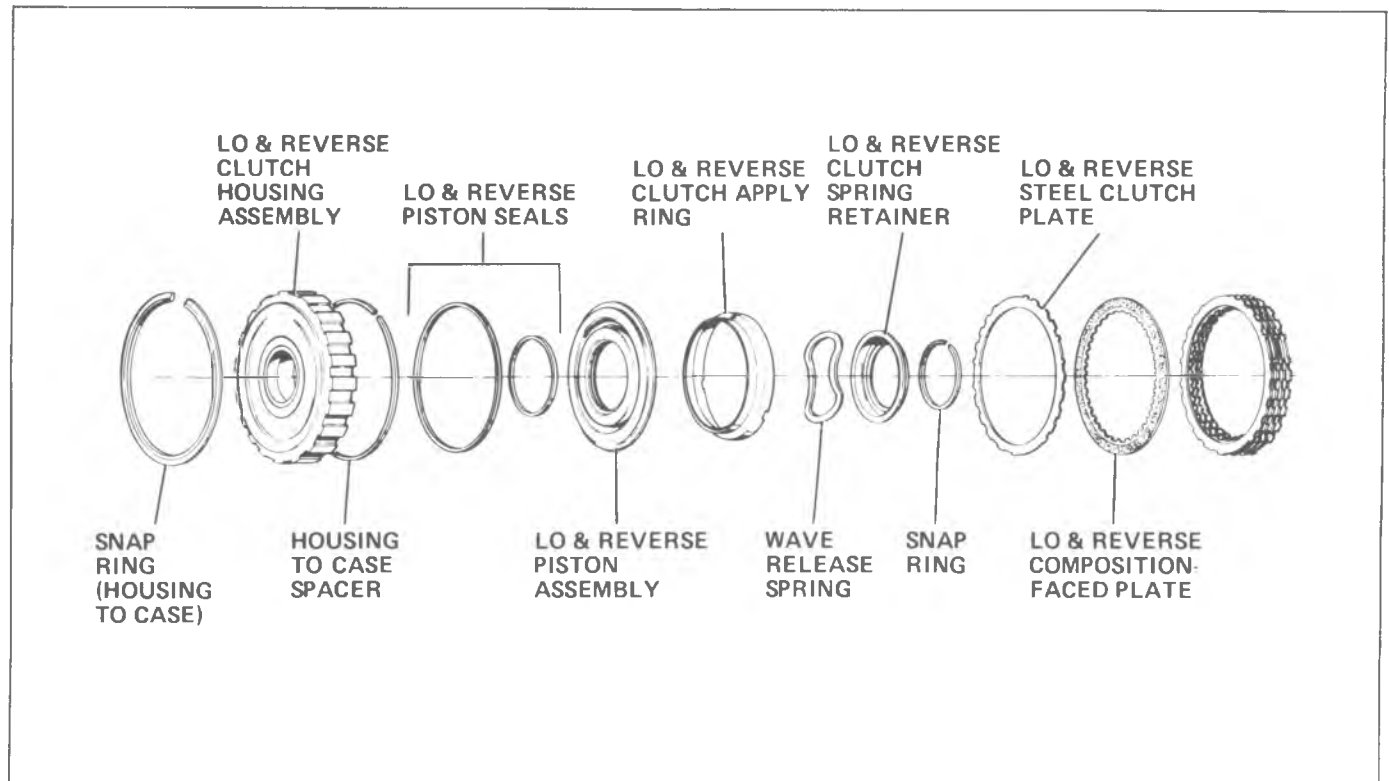

Fig. 7A-75A--Low and Reverse Clutch Housing-Exploded View
10. Using J-25013-5 adjusting screw (Fig. 7A-73A) and looking through parking pawl case slot, adjust the height of the rear internal gear parking pawl lugs to align flush with the parking pawl tooth.